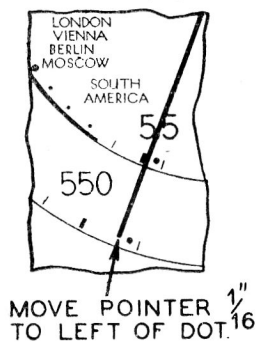

Fig. 5—Dial Calibration
Model 38-C7: (1) Loosen the shaft coupling set screws, using Wrench Part No. 45-2481; then turn the tuning condenser to the maximum capacity position (plate fully meshed). Now turn the selector knob until the dial pointer is on the small black circle at the low frequency end of the Range One scale. With condenser and pointer set in this position tighten set screws. (2) Now turn the selector knob (clockwise) until the dial pointer moves $\frac{1}{8}$ of an inch from the small circle (clockwise), see Fig. 5. Leave pointer in this position and loosen coupling set screws. (3) After loosening set screws, turn the selector knob until pointer is again on the small black dot at low frequency end of Range One scale. Be careful when turning the selector knob that the position of tuning condenser is not disturbed. Tighten coupling set screws with condenser and dial pointer in this position.